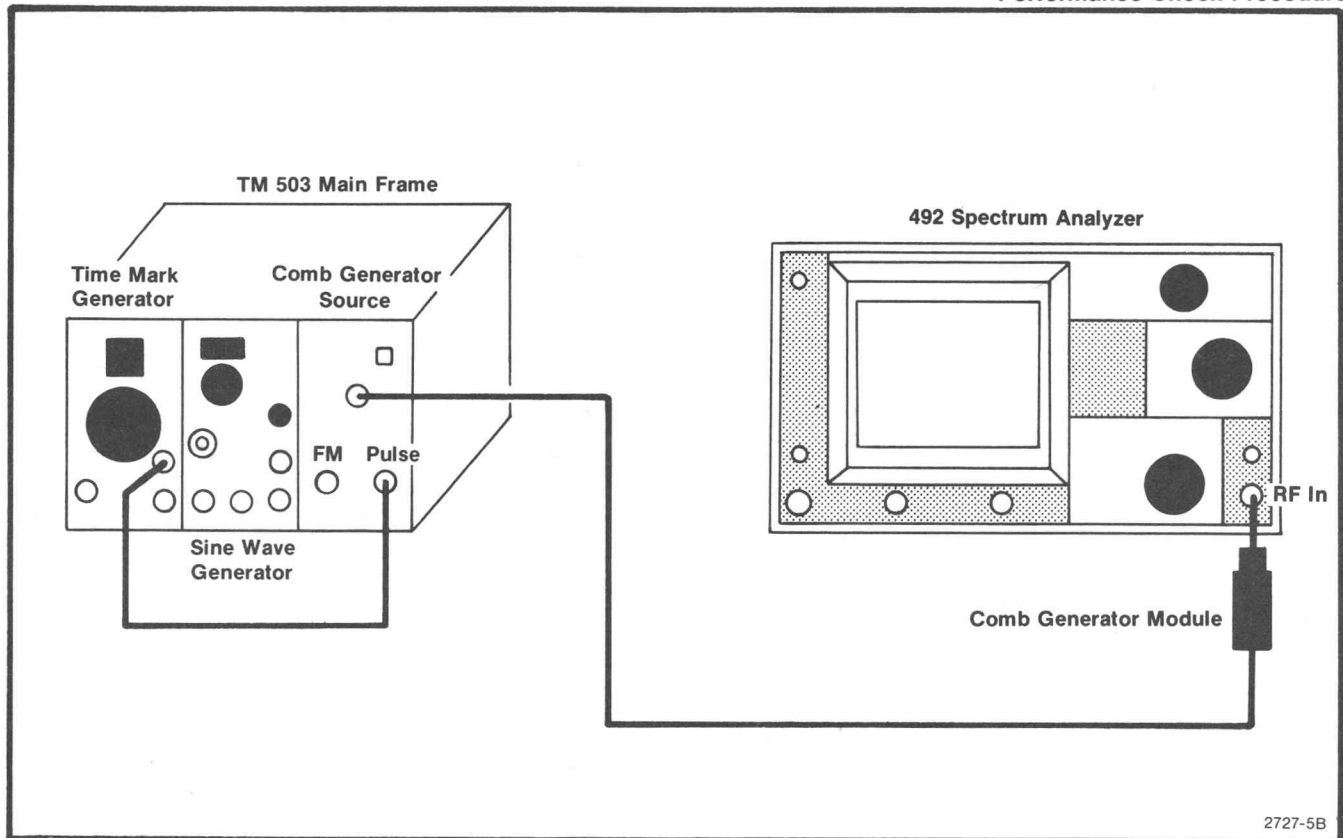

Fig. 3-8. Test equipment setup for checking span and timing accuracy.
d. Change the MIN RF ATTEN to 10 dB. Remove the CAL OUT signal to the RF INPUT and apply the microwave comb generator, as shown in Fig. 3-8. Change to band 4 (5.4 to 18 GHz) and switch the FREQ SPAN/DIV to 500 MHz. If the 492 has Option 1, adjust the PEAKING control for maximum marker amplitude. It may be necessary to adjust the FREQUENCY for best marker definition.